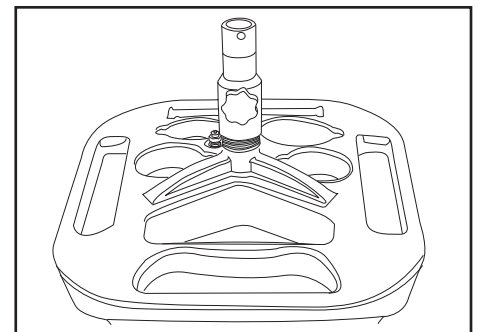

Fig. 2
- a. Insert the drain tube into the neck of the drain and secure by threading the drain tube coupler to the threaded drain tube neck. Coupler needs to be snug - be careful not to over tighten. **(See Fig. 2)**